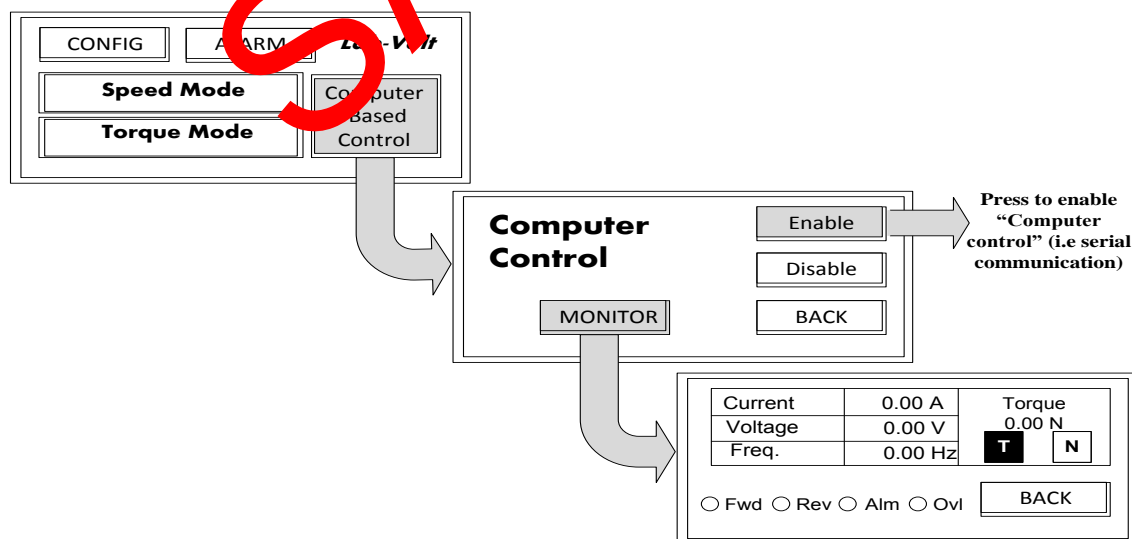

Figure 5.1 Dynamometer touch-screen interface: enabling the "Computer Based Control"
- 4.- Turn-on the 8540 dynamometer and, through its touch-panel, enable its "Computer-Based control", as depicted in Figure 5.1. In this operating mode user can monitor the state of the dynamometer: torque, speed (frequency), current and voltage.